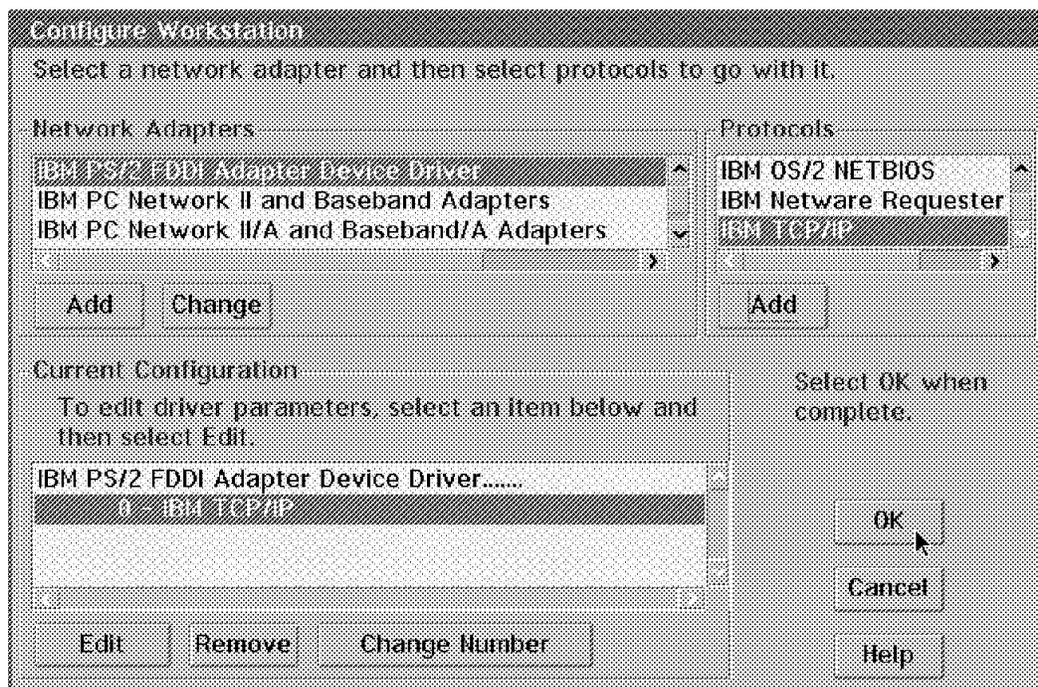

Figure 63. Configuring your FDDI LAN Adapter for TCP/IP
Step 5. The panel shown in Figure 63 appears.